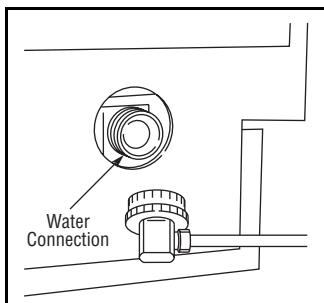

Figure 38
1. Install the 1/4 inch Outside Diameter copper water line from the main water source (see **Figure 38**).